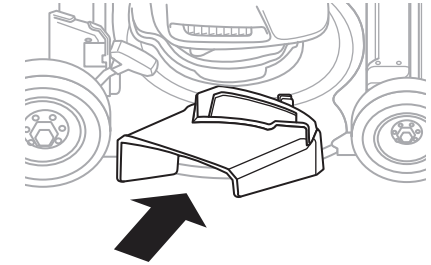

Fig. 4B
3. Install the side discharge chute under the mulch door by sliding two hooks under the hinge pin on door assembly (Fig.4B). The mower is now ready for discharge operation.